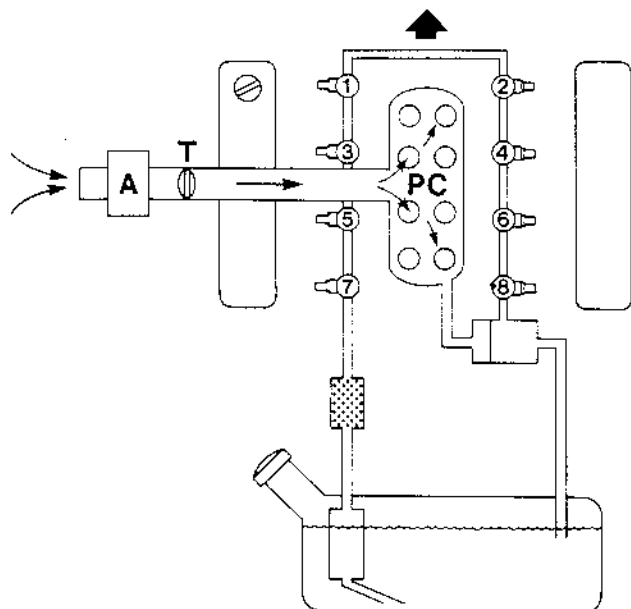

Fig.2 Air System
The driver's accelerator pedal operates a throttle butterfly (T), as seen in fig.2, located in the air intake tract. From there the air passes to a plenum chamber (PC) located centrally over the engine and from which the air is drawn through ram pipes into the inlet manifold itself.